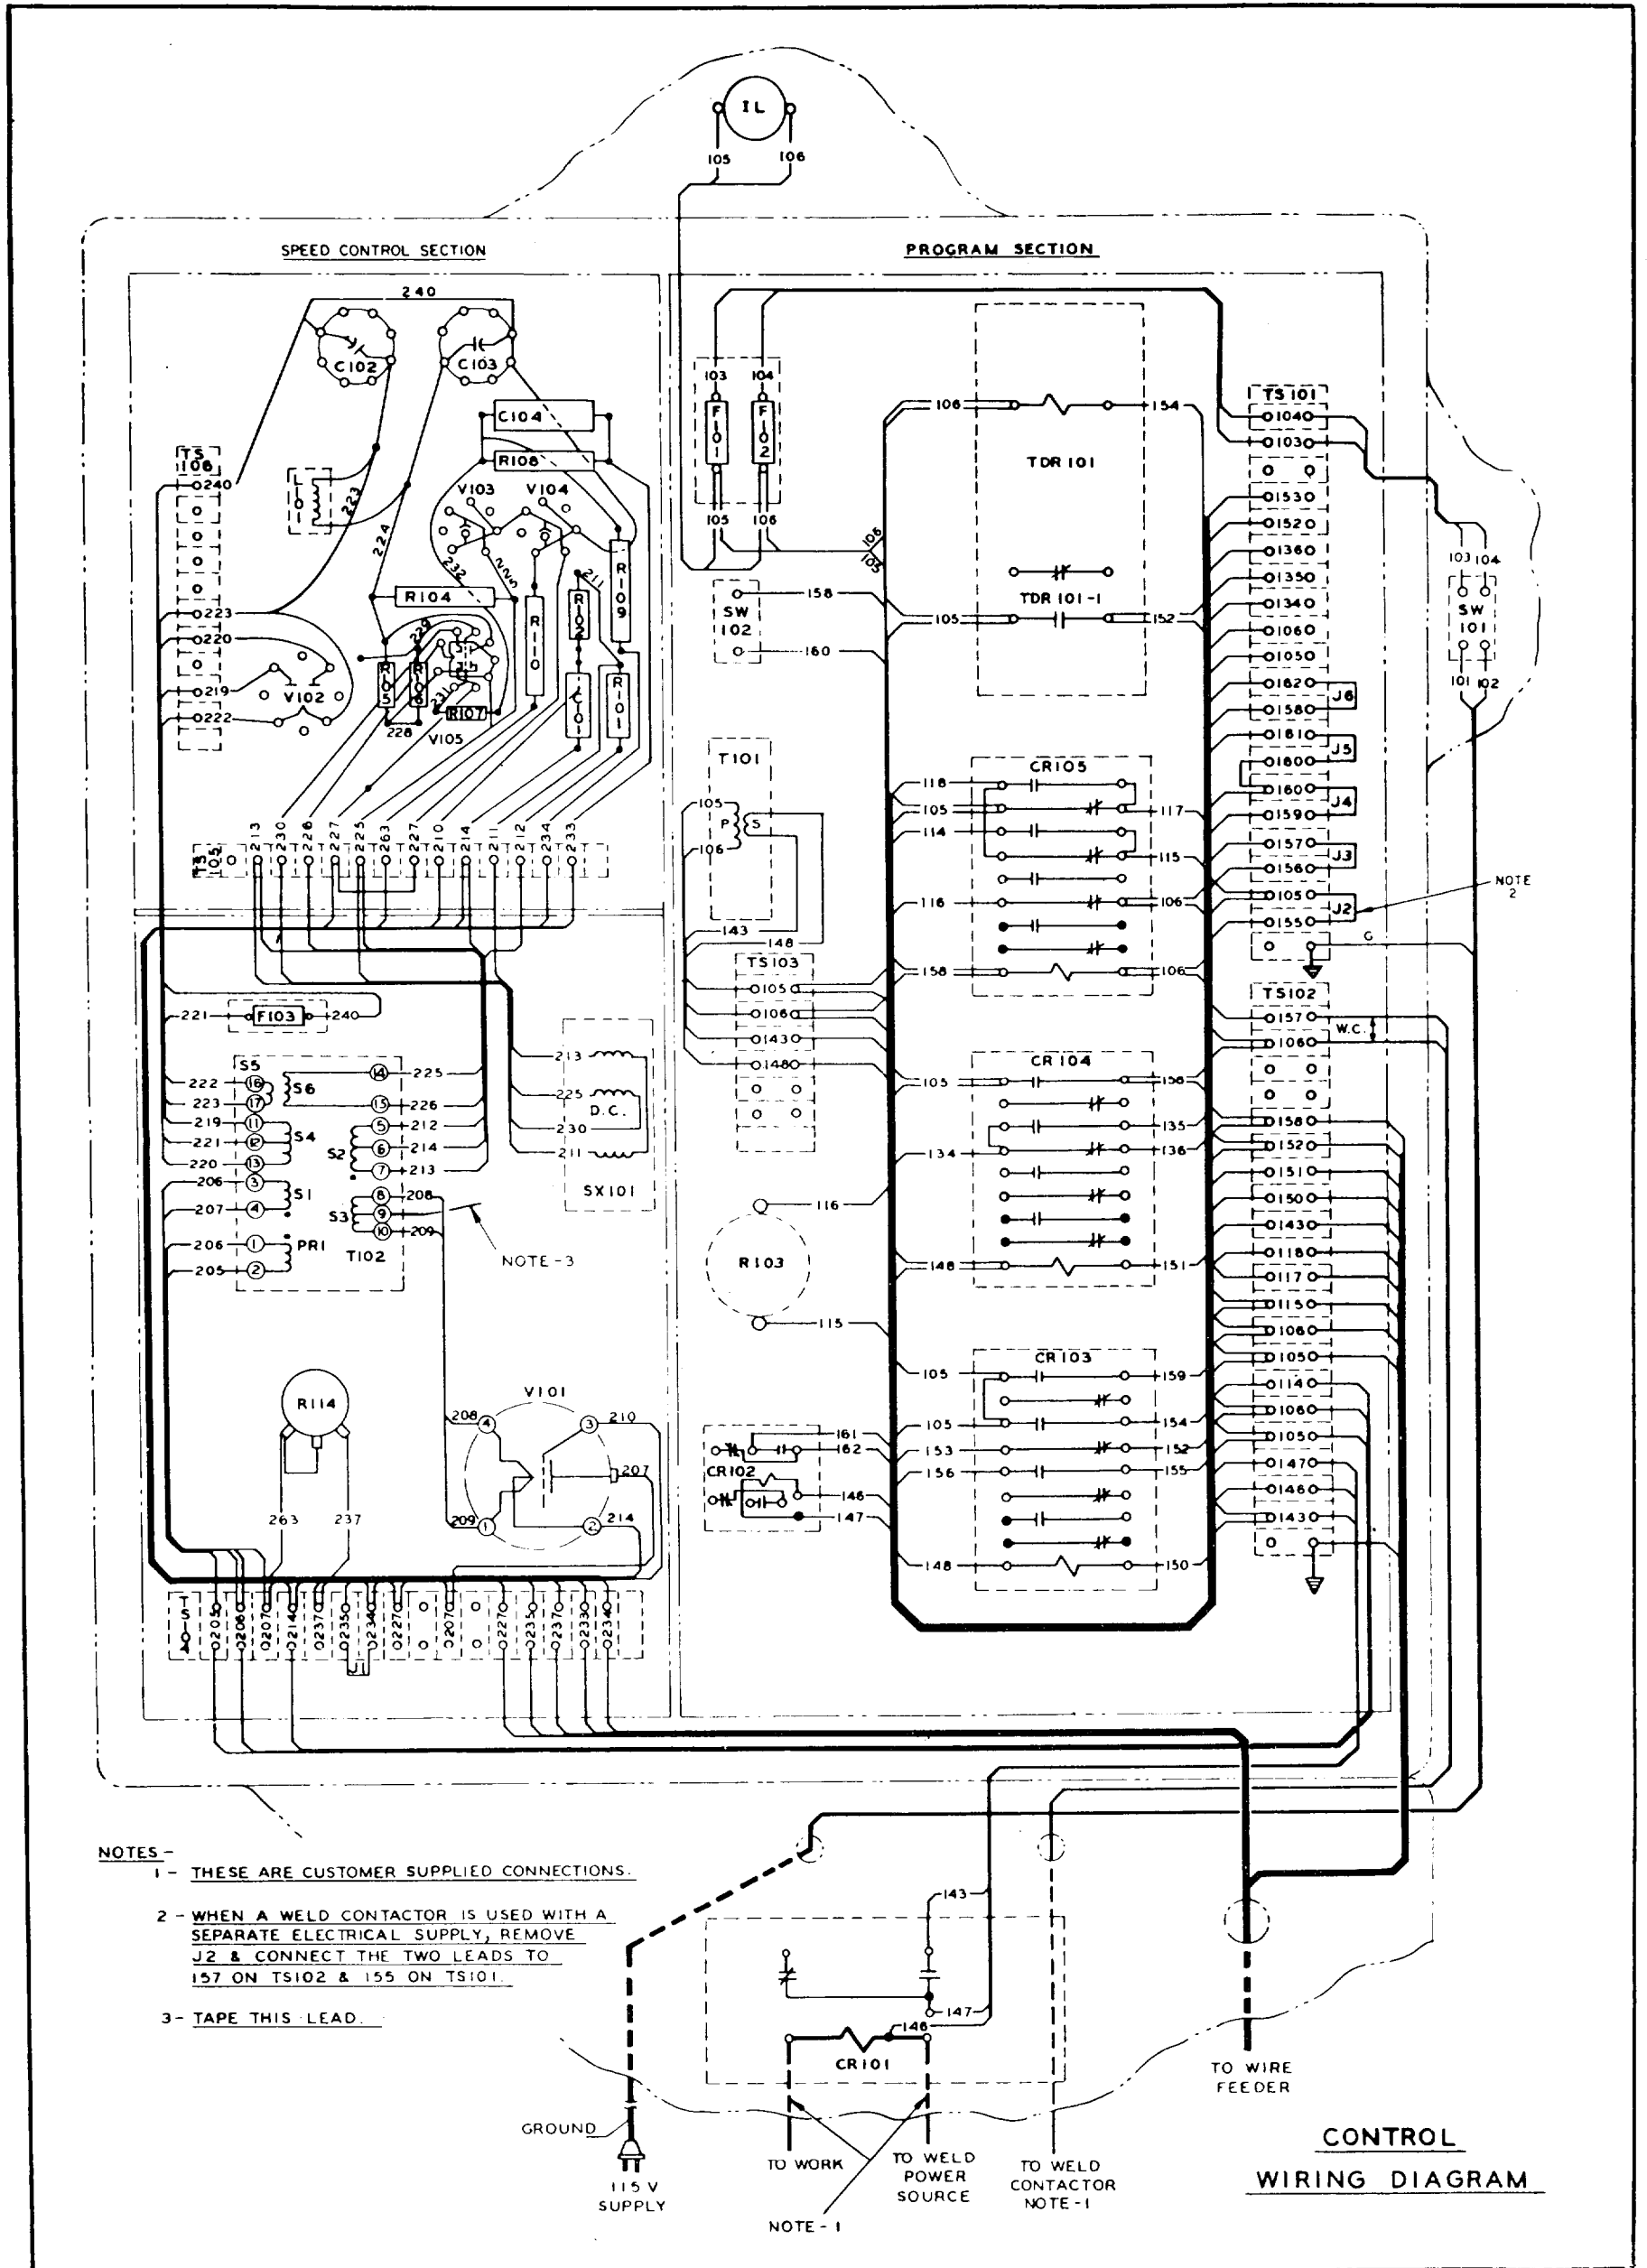

Figure 2. Wiring Diagram Control Panel
- (2) Refer to figure 2 for the wiring diagram control panel.